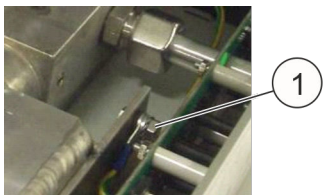

Fig. 86: Earthing screw
- 10.** ▶ Remove the earthing screw (Fig. 86 /1) from the tank.